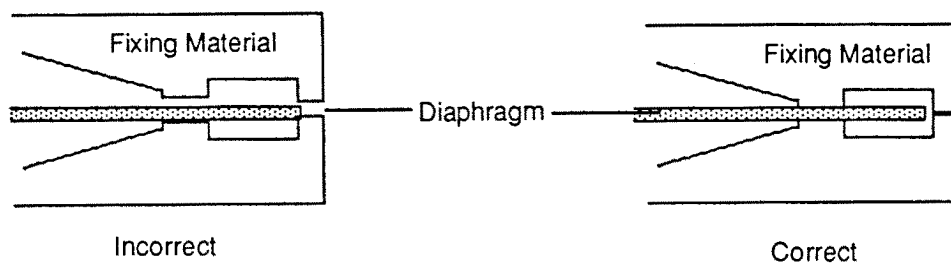

Figure 6-3-16 Incorrect and Correct assembling DP Assy
- I. Assemble the diaphragm pump in the reverse order. Take care to assemble the diaphragm correctly. Correct and incorrect example are shown in Figure 6-3-16.